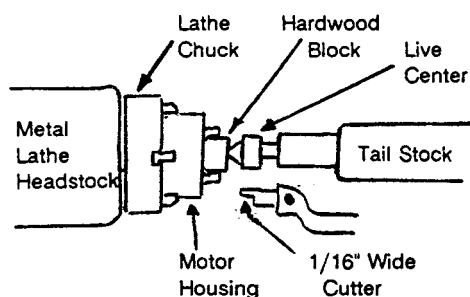

Figure 1
2. The motor housing was mounted in a lathe chuck with the stud end facing the lathe tail stock. (Figure 1)